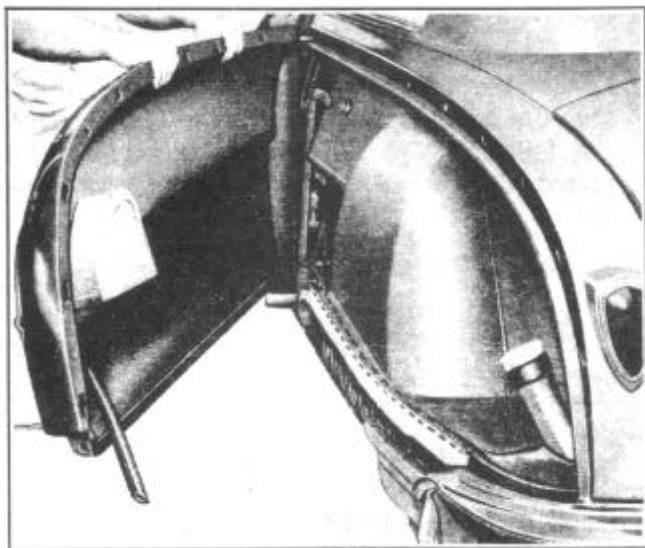

FIGURE 107
11. Lift off rear fender. See Figure 107.